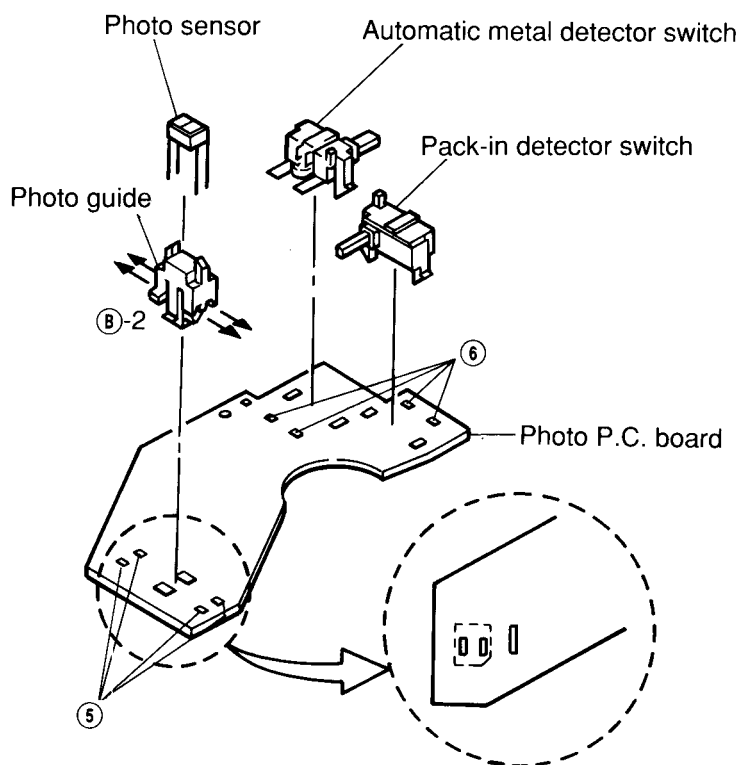

Figure 7
- (1) Remove four solders (5) as shown in Figure 7.
- (2) Remove the photo guide together with the photo sensor from the photo P.C. board as shown in Figure 7.
- (3) Insert the new photo sensor into the photo guide, and bend the legs of the photo sensor in the direction marked (B)-2 as shown in Figure 7.
- (4) Insert the photo guide into the P.C. board and solder the legs so that the photo sensor is set as indicated by [] in Figure 7.
- (1) Remove 4 solders (6) with which the switch is fixed as shown in Figure 7.